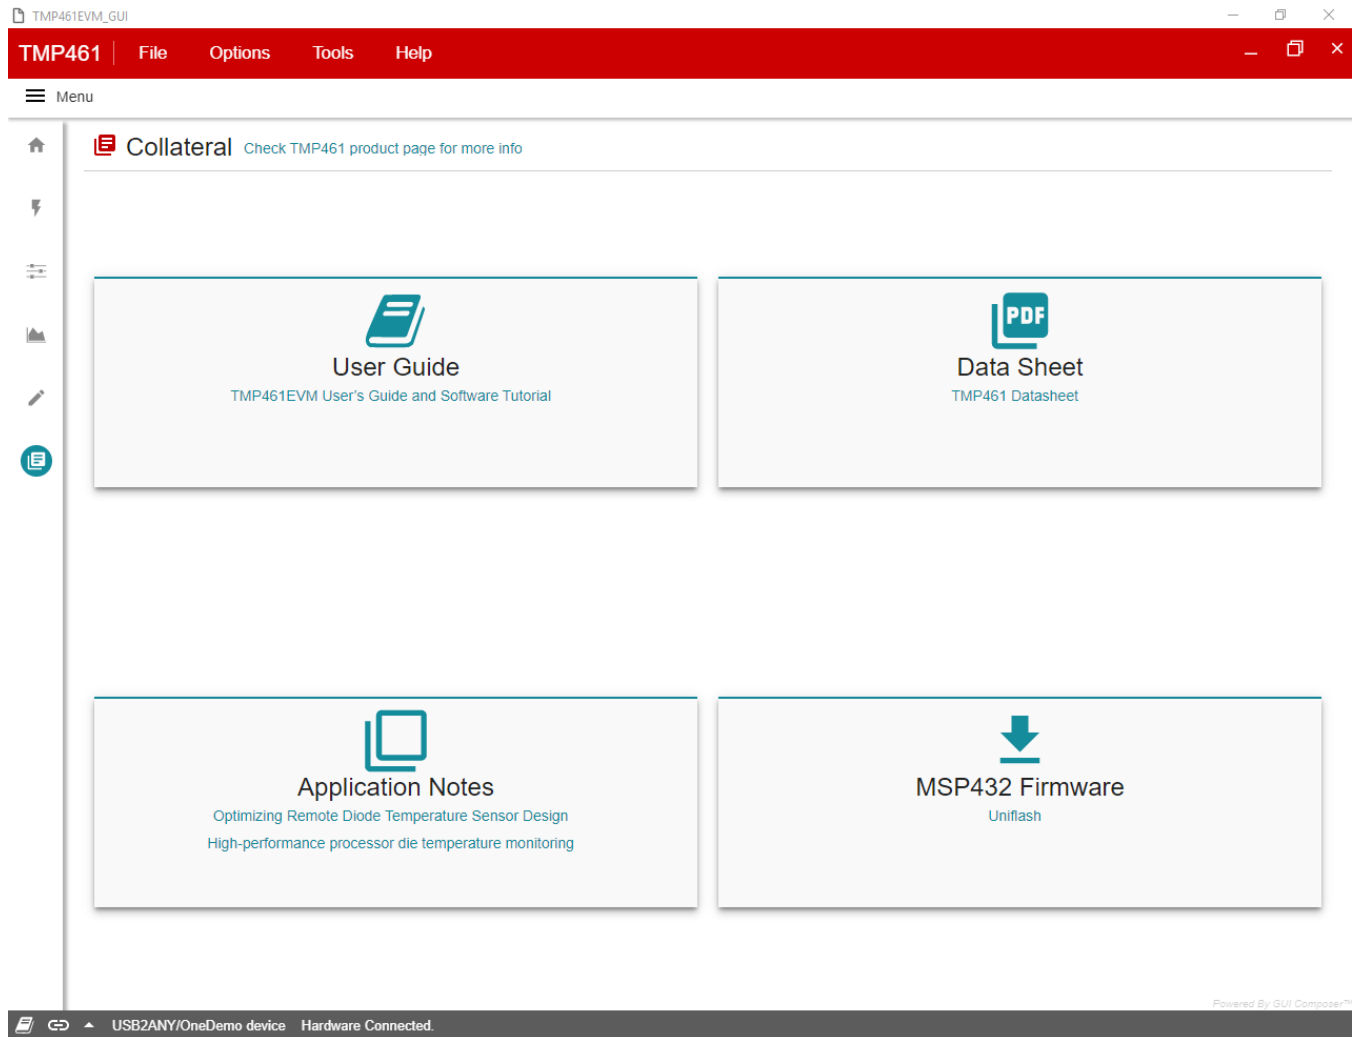

Figure 3-18. TMP461EVM Collateral Tab
The Collateral Tab, as shown in Figure 3-18, contains links to web documents pertinent to the TMP461EVM. The page is divided into four sections: (1) User Guide, (2) Data sheet, (3) Application Notes, and (4) MSP432 Firmware.